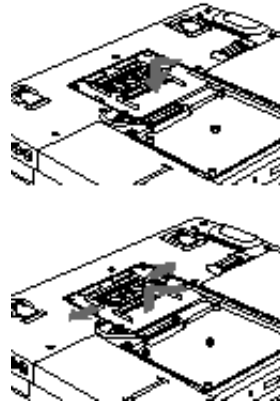

Figure 4-15 Installing/Removing a Memory Upgrade Module
on the module should be on the right with the part side up and the connector pointing towards the back of the notebook and aligned with the notch in the connector inside the compartment. (Figure 4-15.)
2. Pull clips sideways from each side of the memory upgrade module which you wish to remove. (Figure 4-15).